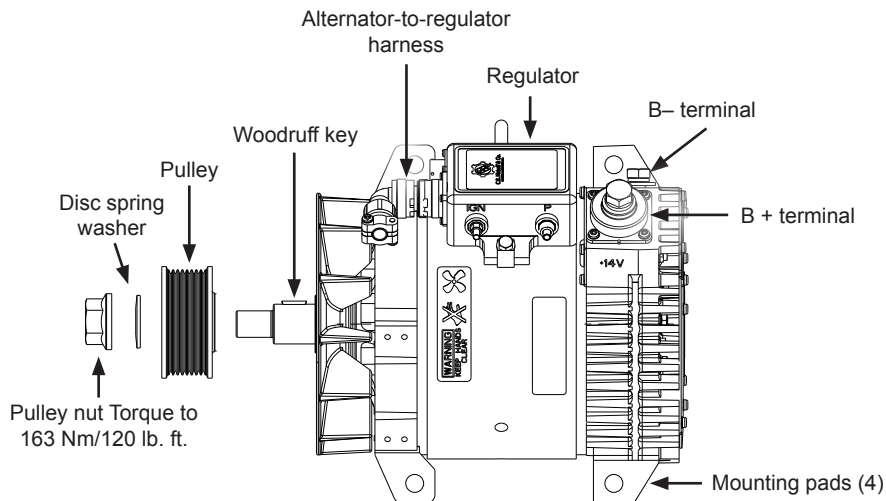

Figure 1: C681 Alternator Connections
2. Install pulley and furnished disc spring washer with beveled side facing pulley. Torque pulley nut to 163 Nm/120 lb. ft. See Figure 1.
7. Connect alternator-to-regulator harness to regulator as shown in Figure 1.